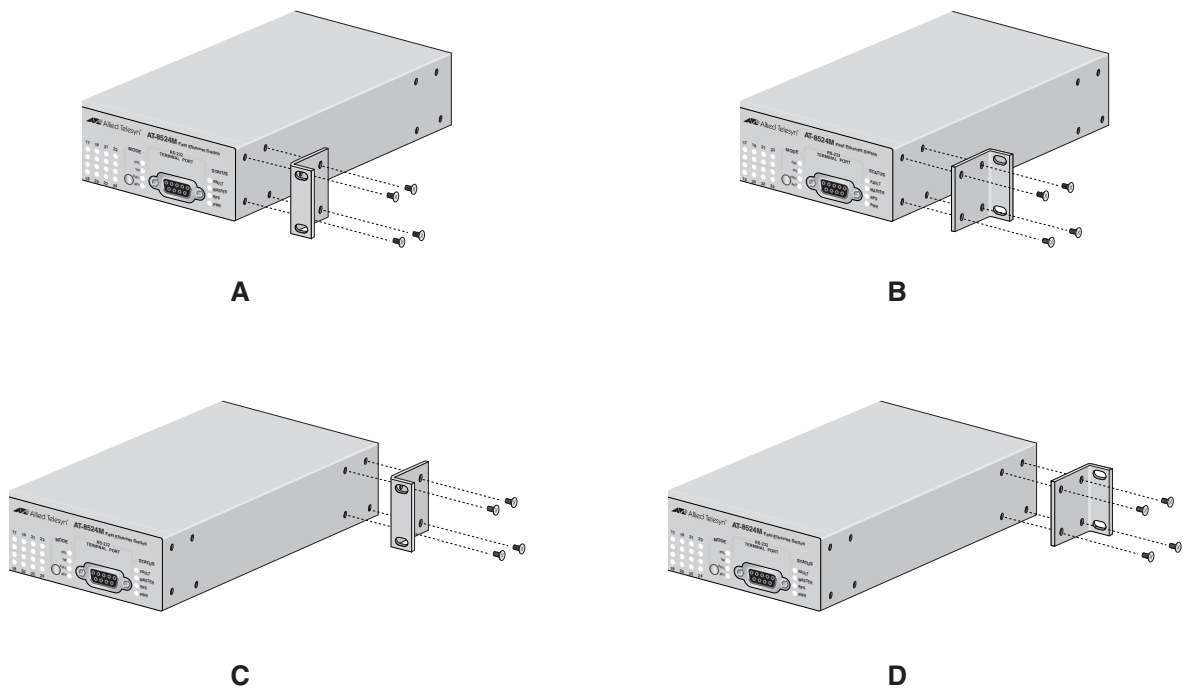

Figure 12. Rack Mount Bracket Positions
The switch is shipped with two brackets for mounting the unit in a rack. The brackets can be attached to the chassis four ways. You can install the chassis so that it is flush with the front of the rack or so that it extends forward from the rack. Figure 12 illustrates the different ways that you can install the brackets and how much the chassis extends from the front of the rack.
- Attach a rackmounting bracket to one side of the switch using four of the screws that came with the switch. You can install the brackets in one of four ways, as shown in Figure 12.